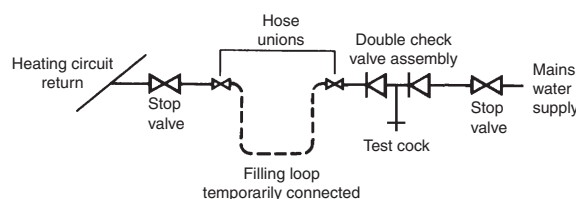

Fig. 3.5
3.8 FILLING THE CENTRAL HEATING SYSTEM - Fig. 3.5
Provision must be made for filling the system. This is done by the use of a filling loop. See Fig. 3.5.
Filling of the system must be carried out in a manner approved by the local Water Undertaking. Where allowed, the system may be filled via a temporary connection as shown in Fig. 3.5. After filling, always disconnect the flexible hose of the filling loop.